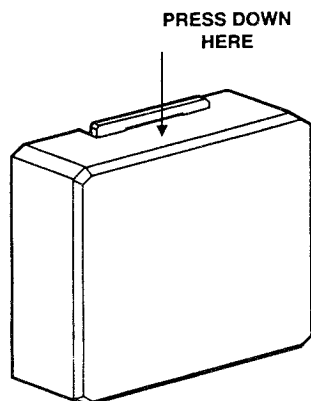

Figure 1. Removing the Enclosure Cover
- 1) Remove the enclosure cover by pressing down on the top center of the cover, and pull the cover away from the base (see Figure 1). Set the cover aside.